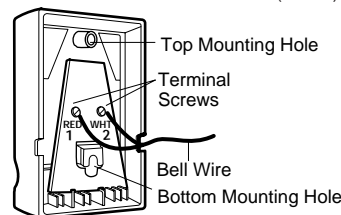

Figure 4 REMOVE COVER
- Remove white cover (push bar) by gently prying at slot in top of the cover with a small flat head screwdriver. (Fig. 4). Fasten with 6ABx1-1/4" self-tapping screws (drywall installation) or 6-32x1" machine screws (into gang box) as follows: